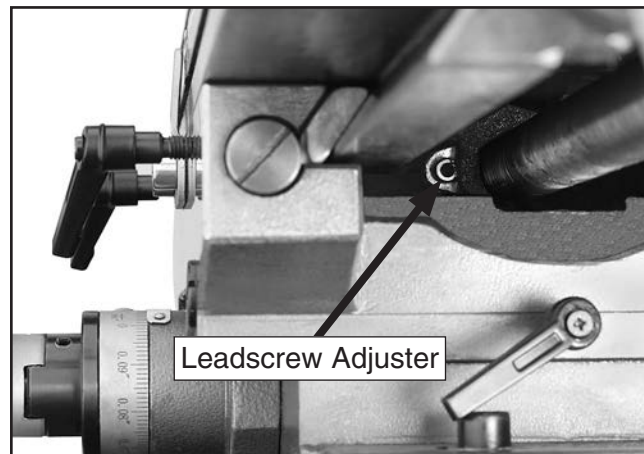

Figure 61. X-axis leadscrew adjuster.
1. Locate the X-axis leadscrew adjuster shown in **Figure 61** under the middle of the table. The head on the adjustment screw faces to the right.